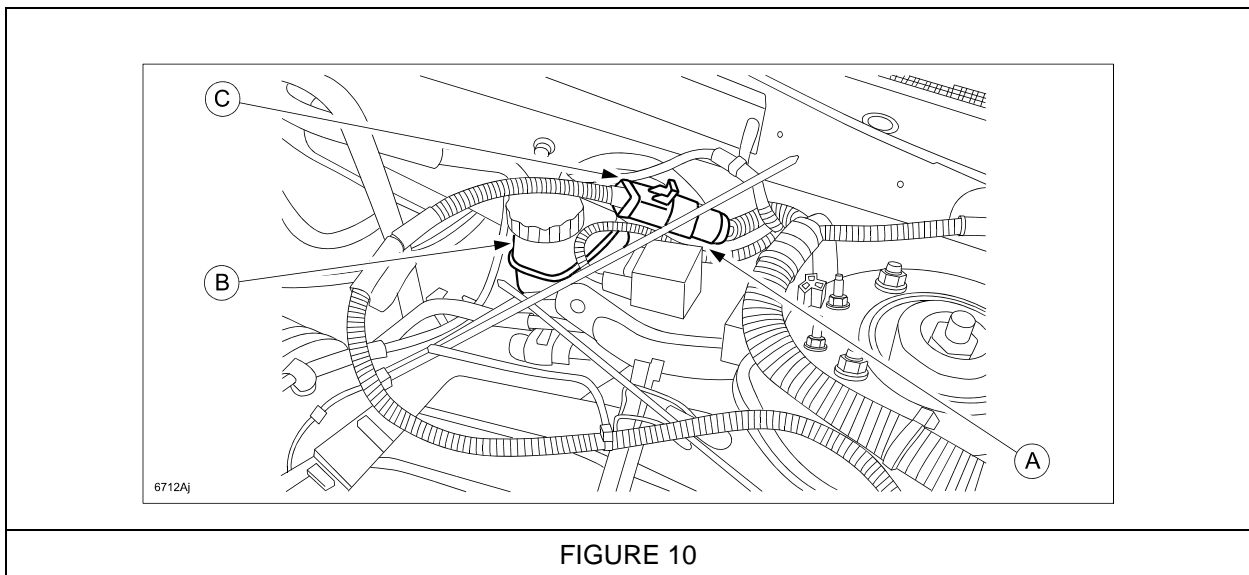

FIGURE 10
5. Locate the ABS test connector (A) mounted behind the master cylinder reservoir (B). Remove and discard the test connector plug and connect the ABS relay connector (C). See Figure 10.